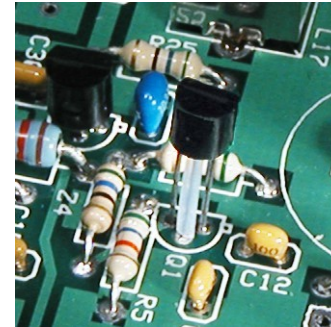

Figure 31. Installing Q1 with Teflon Spacer.
- __C13, .047 (473) \Rightarrow __C12, 10 pF (100)
- __C14, 22 pF (220)
- Install transistor Q1 (MPS918) near U2 so that the Teflon tubing acts as a spacer to hold the transistor above the board. One end of the tubing should contact the bottom of Q1's case and the other end should rest against the top of the circuit board (see Figure 31).